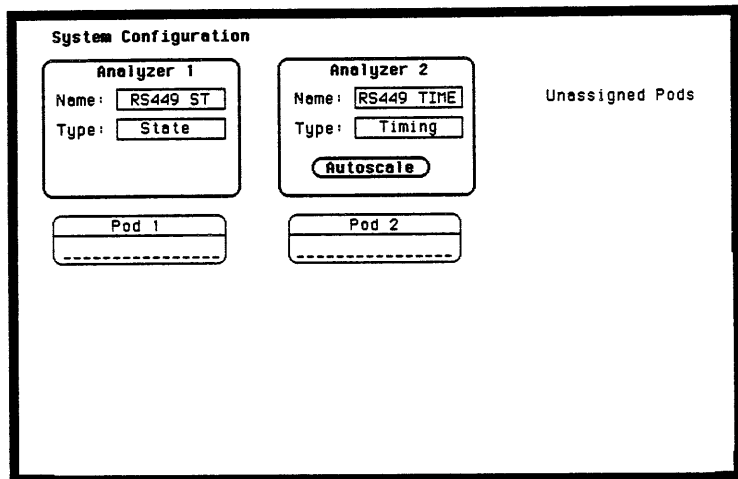

Figure 6-7. Configuration Menu for Timing Analysis with the HP 1651A
2. Assign pod 2 to Analyzer 2. You should see the display as shown in figure 6-7.